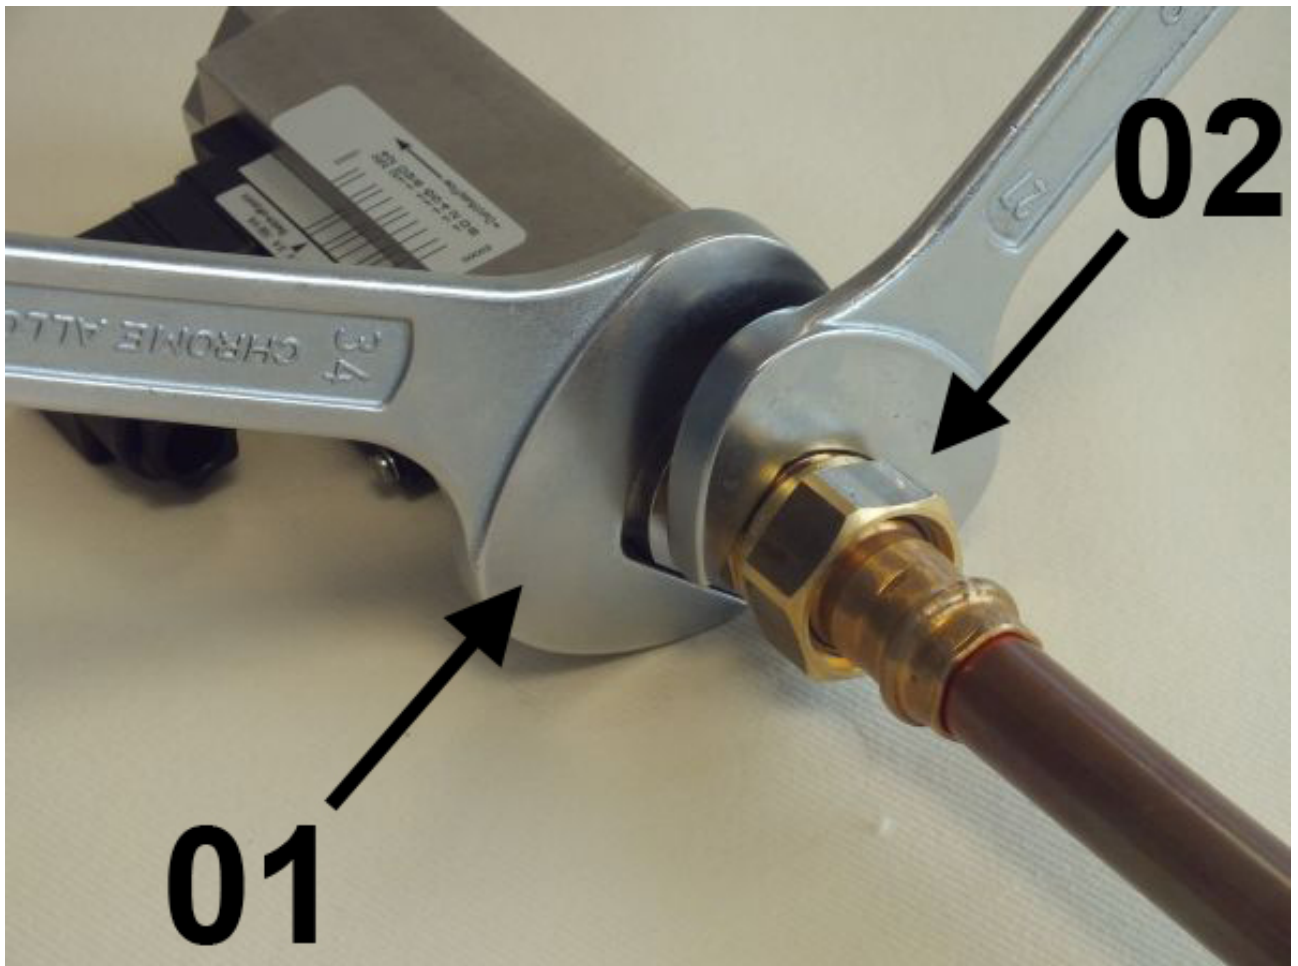

Fig. 11: Screw in the device
2. ➡ Fasten the adapter union of the pipeline with an appropriate spanner (*Fig. 11/02*). When doing so, lock the process connector in place to prevent slip, using a suitable spanner (*Fig. 11/01*).